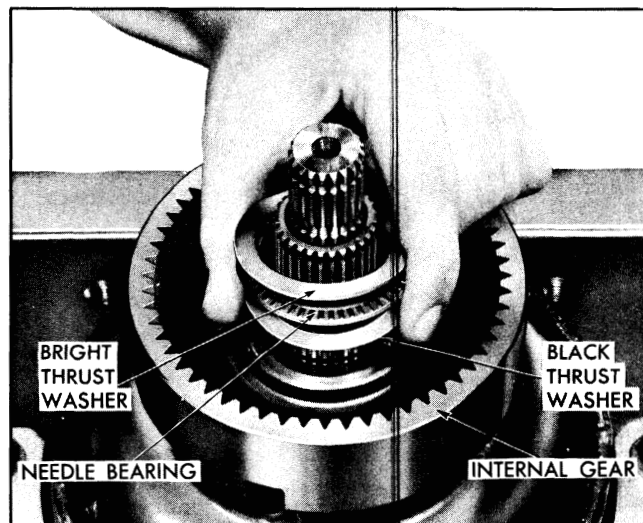

Fig. 7D-166 Installing Internal Gear, Needle Bearing and Washers for Front Unit End Clearance Check
5. Install front unit sun gear with recessed side over snap ring (Fig. 7D-167).
7. Place end play gauge J-6282 over intermediate shaft (Fig. 7D-168).